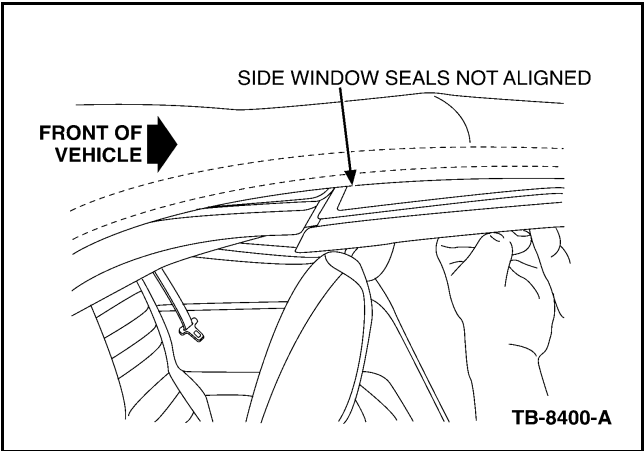

Figure 4 - Article 05-24-6
4. Side window seals do not align properly to side glass. (Figure 4)